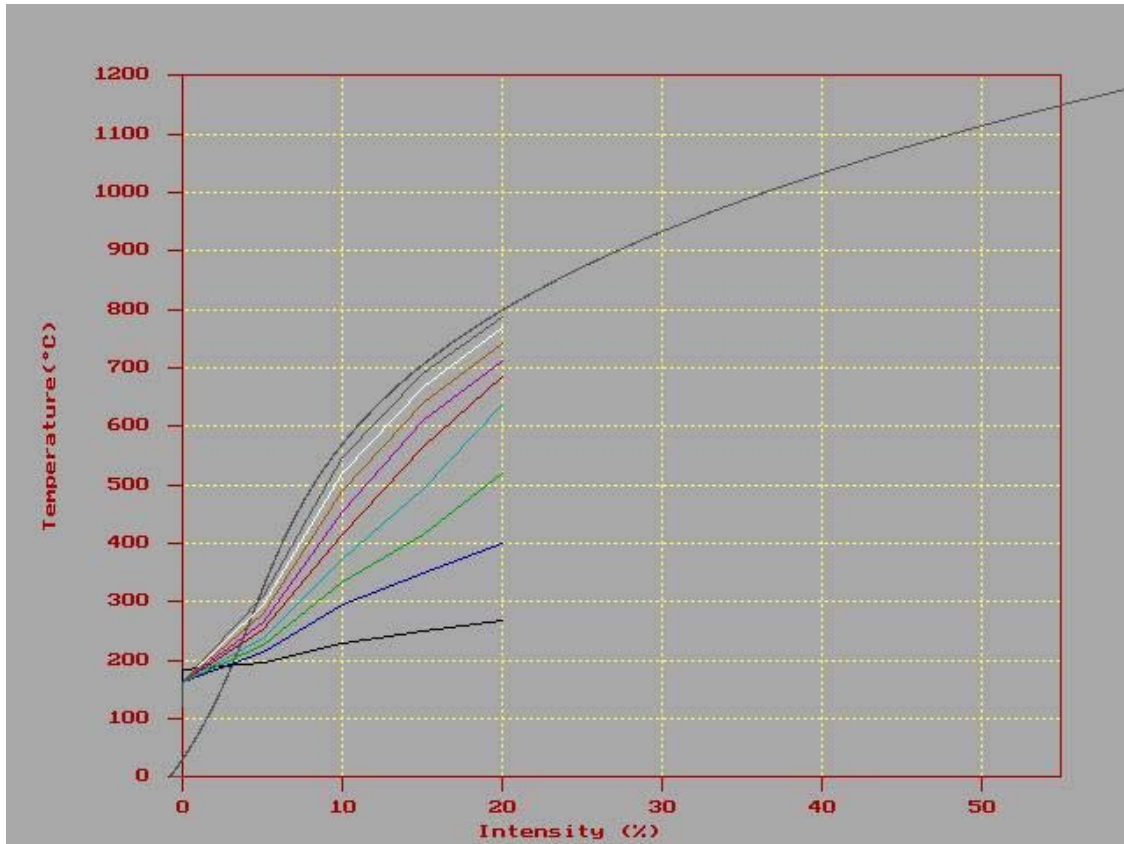

Figure 3-25. Historical Lamp Temperature vs. Intensity Curve
4. Press [any key] and the *Historical Lamp Temperature vs. Intensity Curve* will appear (see Figure 3-25.)